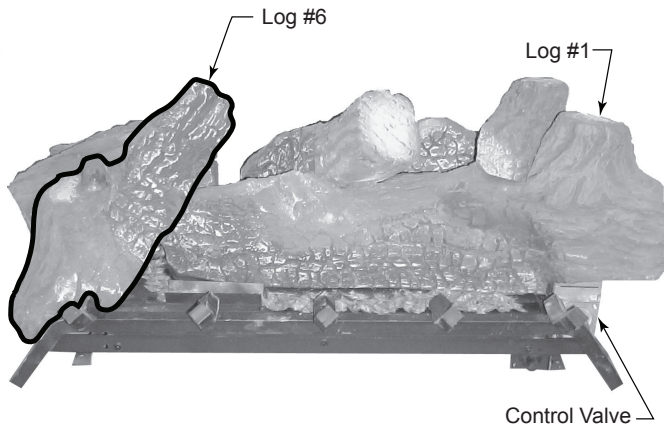

Figure 5.6 - Place Log #6
- Place log #6 on pilot end of burner by aligning the 'V' notch in bottom of log with the filler bracket surrounding the pilot. Place the rectangular notch in the bottom of the log onto the rectangular protrusion on the end of log #1. *Figure 5.6*